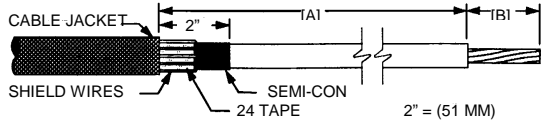

Figure 1
2. Remove jacket as shown in **Figure 1** and **Table 2**. (Be sure to allow for depth of lug barrel [B].)
3. Wrap 2 wraps of Scotch 24 Shielding Tape over shielding wires at jacket edge. Cut off excess 24 Tape (Figure 1).
4. Bend shielding wires back over 24 Tape and cut excess off at jacket edge (Figure 1).
5. Remove semi-con as shown (Figure 1).